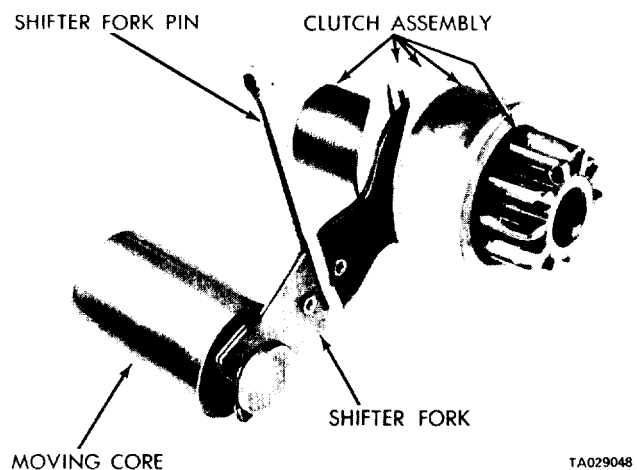

Figure 15-21. Shifter Fork and Clutch Arrangement.
(1) Position the shifter fork in the drive housing and install the shifting fork retainer pin (figure 15-21). One tip of the pin should angle away from the housing. The fork and retainer pin should operate freely after bending the tip of the pin.